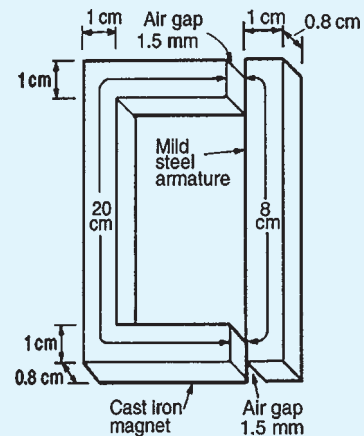

Figure 7.8
- Figure 7.8 shows the magnetic circuit of a relay. When each of the air gaps are 1.5 mm wide find the m.m.f. required to produce a flux density of 0.75 T in the air gaps. Use the B–H curves shown on page 74. [2970 A]